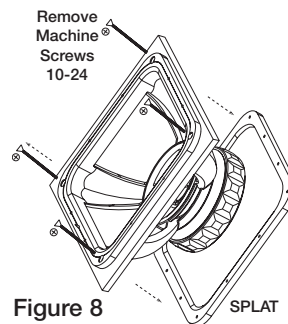

Figure 8
With the Gap Cap installed, remove the four (4) 10-24 Phillips Head Machine Screws that lock the BAM to the wood "template". See Figure 8.